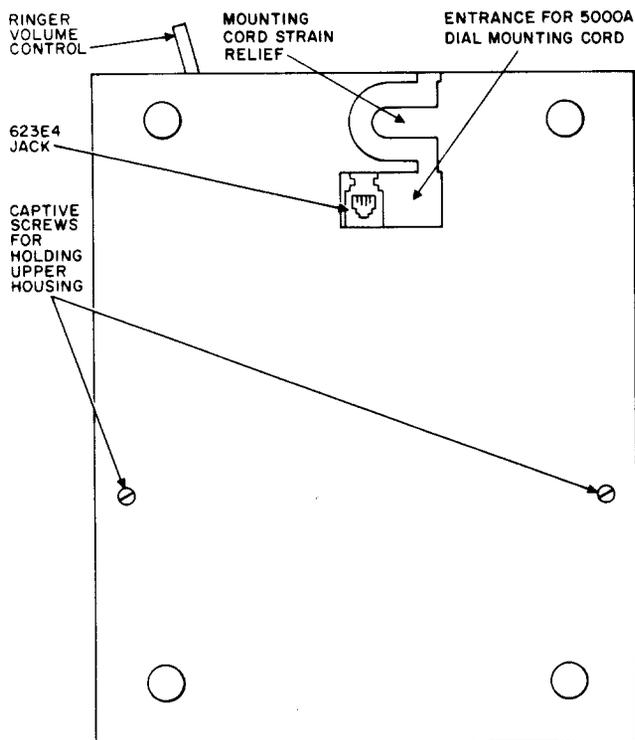

Fig. 3—Bottom of 5000AM Transaction I Telephone Base
- (1) Disconnect power plug from AC outlet, if connected.
- (2) Invert set and loosen the two captive screws holding the upper housing and chassis (Fig. 3).
(6) Replace upper housing and chassis and tighten captive screws holding upper and lower housing together.
(7) Place jacketed portion of mounting cord under strain relief as shown in Fig. 3.
(8) Affix 840713366 label to top of 5000A dial directly above number buttons.